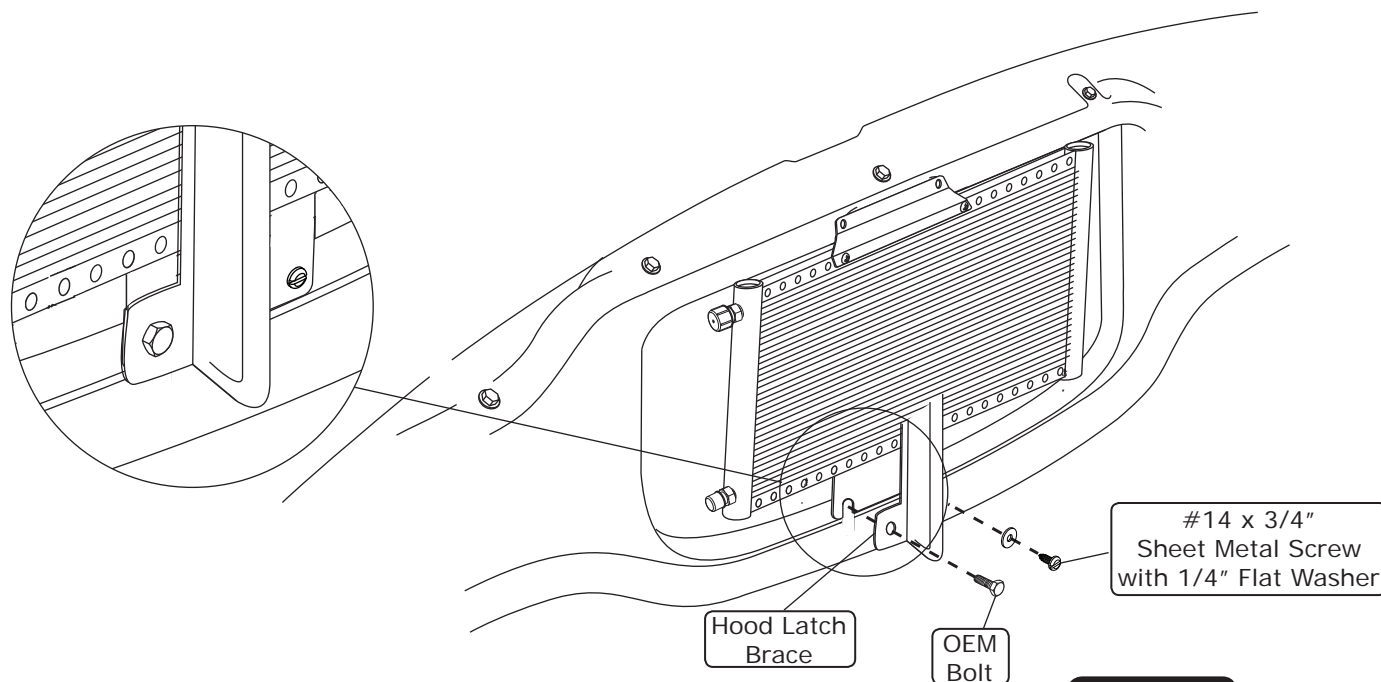

Figure 2
2. Secure the bottom passenger side of the condenser to the core support using the OEM bolt as shown in Figure 2, below.
3. Using the driver side mounting hole as a guide, drill a 3/16" hole into the core support. Secure the condenser to the core support using a #14 x 3/4" sheet metal screw with a 1/4" flat washer as shown in Figure 2, below.